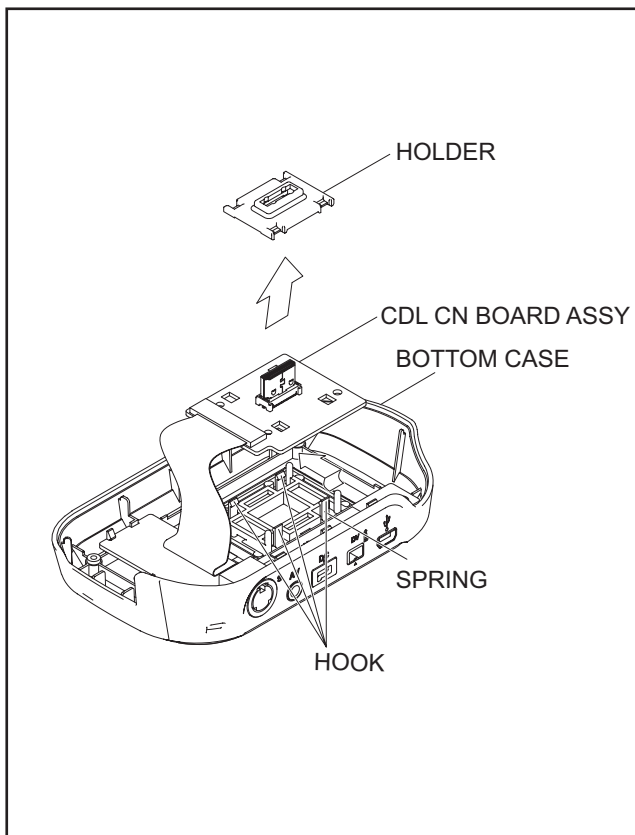

Fig.2-3-2
2. Removing the HOLDER (Refer to Fig.2-3-2)